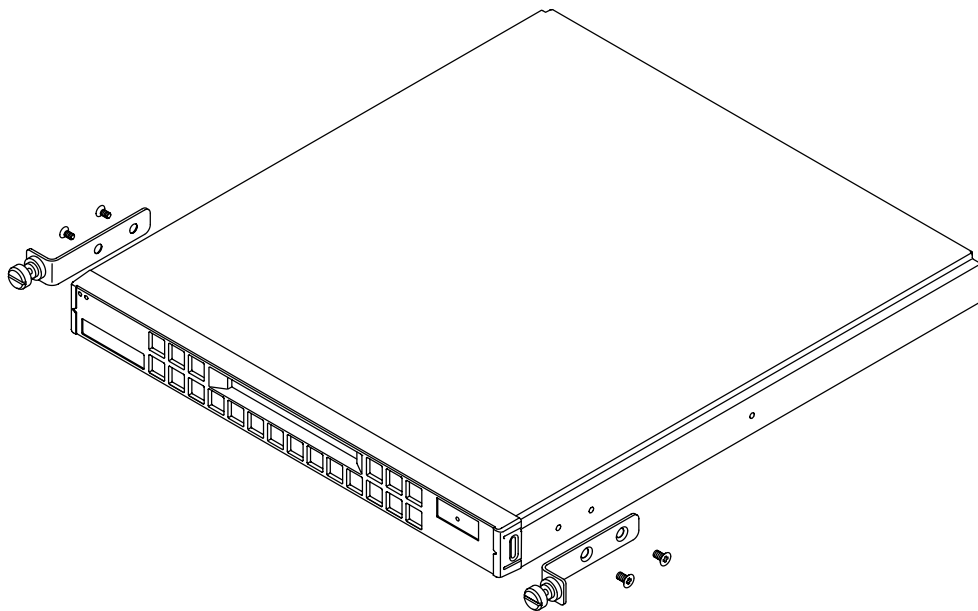

FIGURE 1-5 Fitting the Thumbscrew Brackets
- FIGURE 1-5 Fitting the Thumbscrew Brackets 5
Refer to FIGURE 1-5.